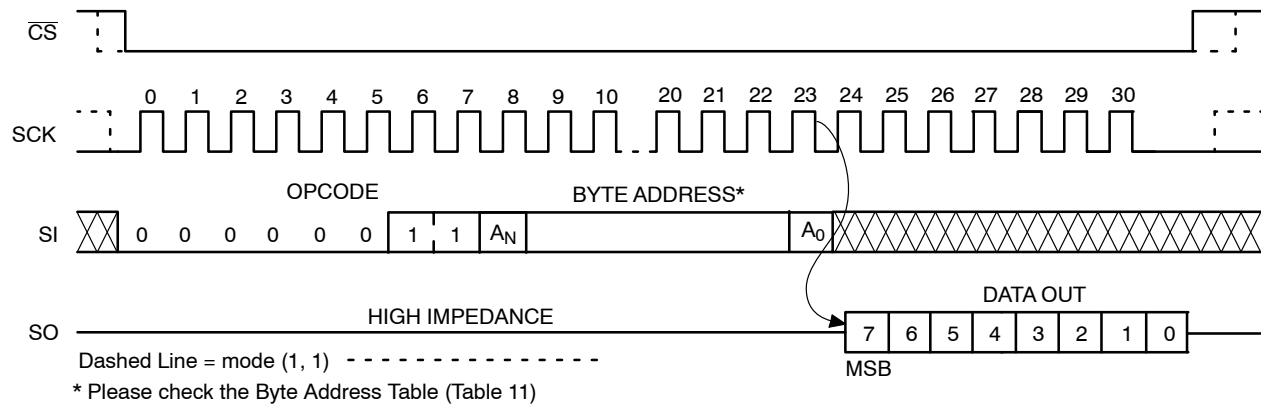

Figure 9. READ Timing
After receiving the last address bit, the CAV25128 will respond by shifting out data on the SO pin (as shown in Figure 9). Sequentially stored data can be read out by simply continuing to run the clock. The internal address pointer is automatically incremented to the next higher address as data is shifted out. After reaching the highest memory address, the address counter “rolls over” to the lowest memory address, and the read cycle can be continued indefinitely. The read operation is terminated by taking $\overline{\text{CS}}$ high.
Reading the additional 64-byte Identification Page (IP) is achieved using the same Read command sequence as used for Read from main memory array (Figure 9). **The IPL bit from the Status Register must be set (IPL = 1) before attempting to read from the IP.** The [A5:A0] are the address significant bits that point to the data byte shifted out on the SO pin. If the $\overline{\text{CS}}$ continues to be held low, the internal